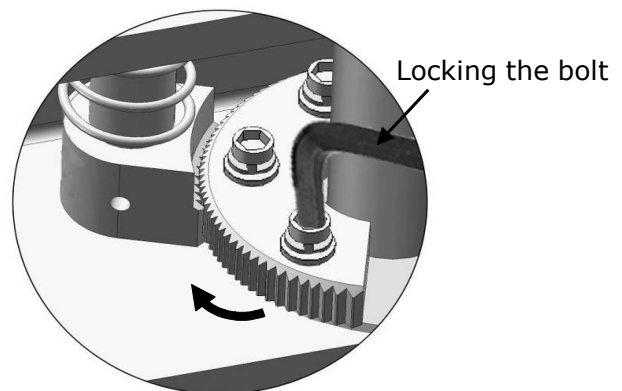

Fig. 36
4. Adjust moon gear and arm lock to make it to be meshed, then tighten the socket bolts of arm lock **(See Fig. 36)**.